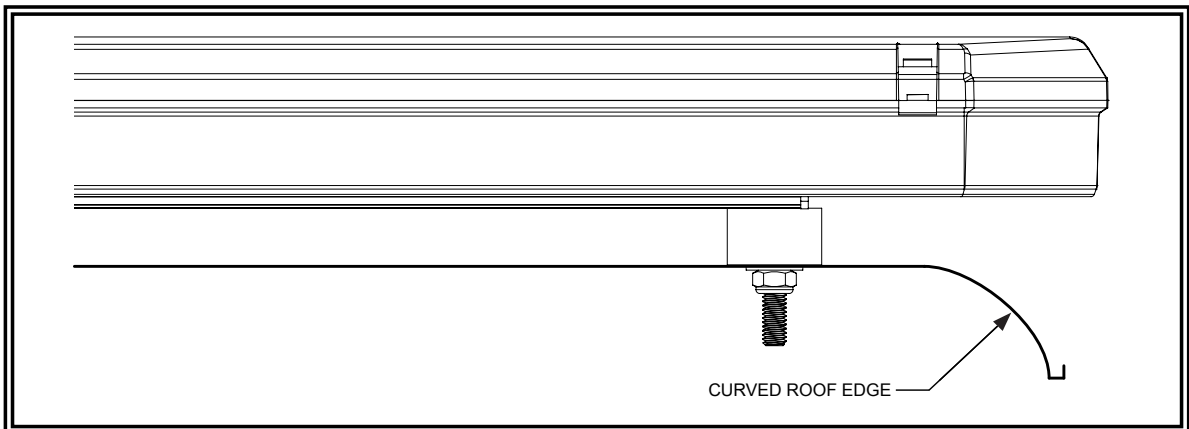

FIGURE 4
2. Place the lightbar on the vehicle in the determined location and slide the mounting hardware into position. It is suggested that positioning of the attachment locations should be symmetrical and positioned where the roof is strongest. See FIGURE 4.